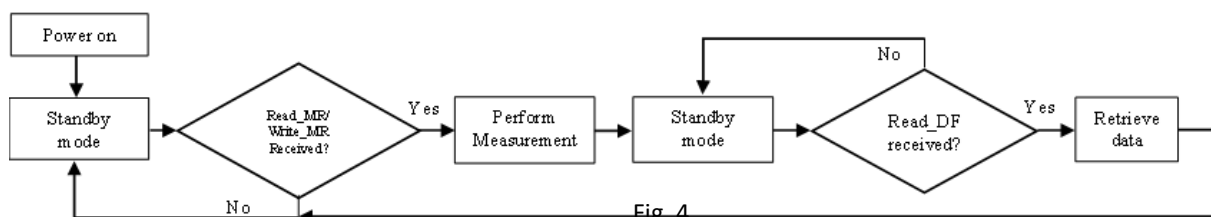

Fig. 4
The general flow of the low-power option is illustrated in Figure 4 below while it provides a depiction of the actions involved in fetching the Measurement Request (MR), relevant bus activity, and the outcomes of status bits.